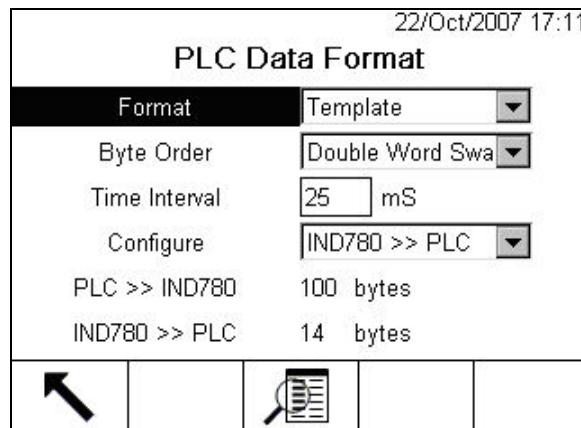

Figure 6-8: PLC Data Format Screen
- From Setup, select Communication > PLC Interface > Data Format. Figure 6-8 shows the screen with Template selected as the format, revealing the Time Interval, Configure, and directional displays. When Application format is selected, only the Format box appears on this screen.
6. The bottom of this screen (Figure 6-8) displays the number of bytes that will be sent by the IND780 and the number of bytes expected from the PLC.